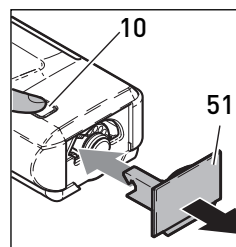
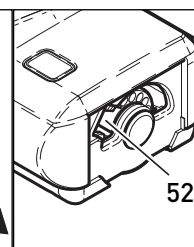

Figure 21
Figure 22
To replace the brush strip, push the brush release button (10), remove the side plate (51 - figure 21), turn the brush roller until the end of the brush strip can be accessed at the notch (52 - figure 22). Grasp the brush strip (53) from the underside of the power head and push it out through the notch far enough to be grasped and pulled out. Insert the new brush strip and press the side plate (51) back into place, making sure that the plate is firmly seated.